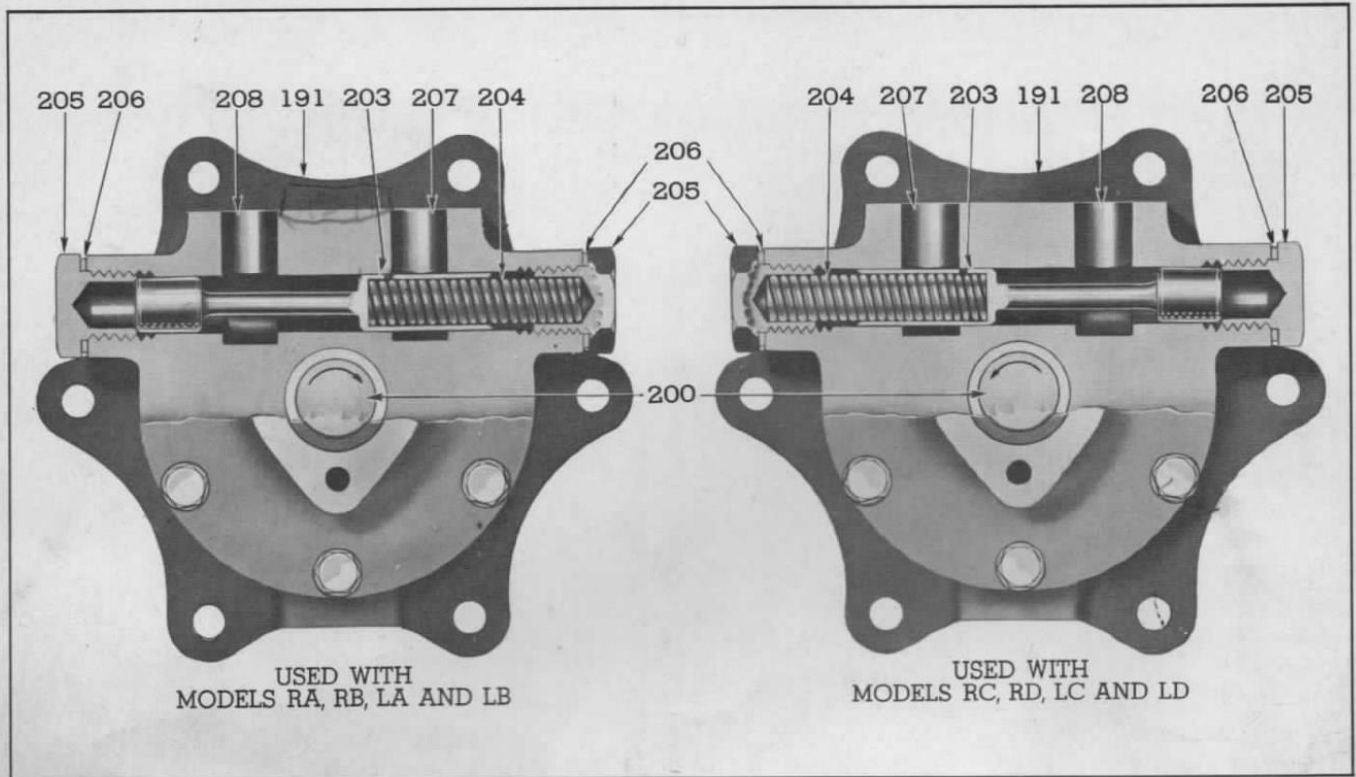

Fig. 12—Position of Relief Valve in Hydraulic Oil Pump Body for Engine Models as Indicated
A spring-loaded horizontal relief valve (203) is provided in the pump body connecting the inlet and outlet ports (207) and (208), as shown in Fig. 12. This valve provides a by-pass from the outlet to the inlet side of the pump when excessive pressure is built up inside the pump. Pumps are built for right-hand and for left-hand rotation, depending on the engine model on which the pump is used. Viewing the pump from the aft end (end opposite to pad for mounting to the flywheel housing), pumps with R. H. rotation (clockwise) are used on RA, RB, LA and LB engines and pumps with L. H. rotation (counterclockwise) are used on RC, RD, LC and LD engines, as shown in Fig. 12. The direction of rotation is shown by an arrow on the pump cover. Note that valve spring (204) and the hollow end of the relief valve (203), which receives the spring, is located on the inlet side of the pump.